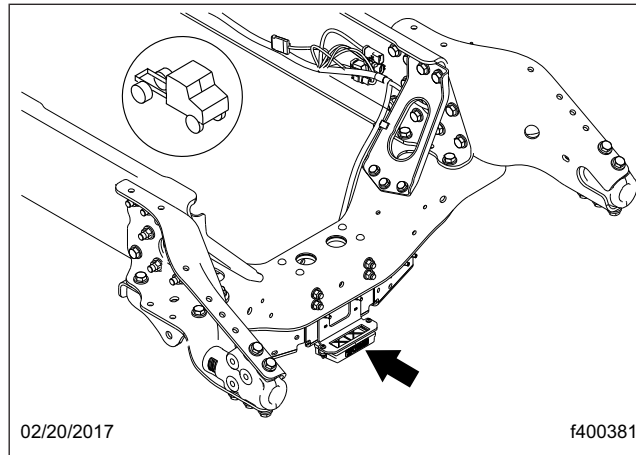

Fig. 22, TPMS Receiver
8. Disconnect the wiring harness and the antenna cable from the TPMS ECU receiver. See Fig. 22.